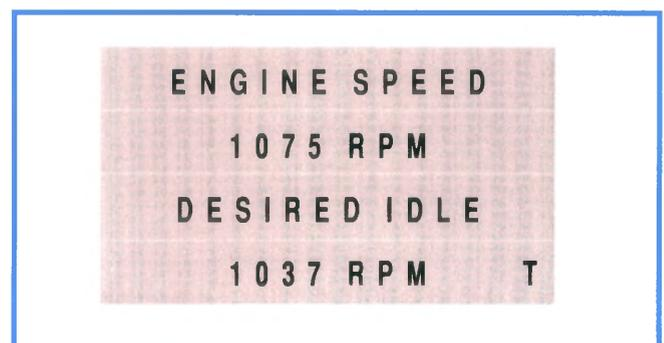

Figure 6-36, Trigger Occurred Display (Steady "T")
- A fixed "T" (figure 6-36) indicates that a trigger occurred. In this mode, the Tech will continue to save data and display the "T" until its memory is full.